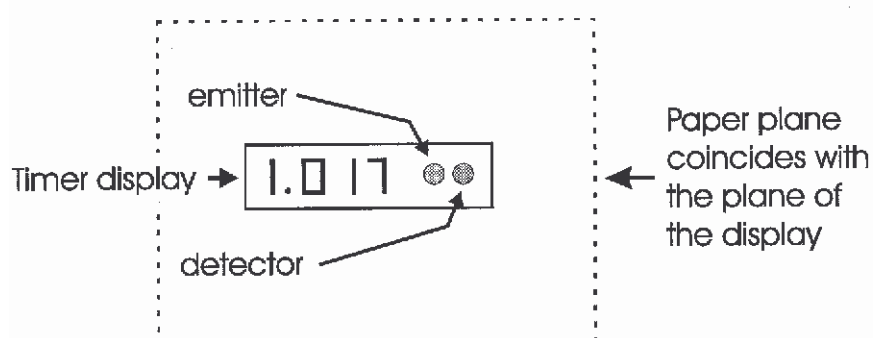

Figure 7. **For use in section 3b.** Indicate the whole area where the reflected light hits when the pendulum is vertical.
b) Consider the light source to be a point source, and the detector a simple photoelectric device. Make an illustration of how the light from the emitter is reflected by the mirror on the nut in the experimental setup (side view and top view). Figure 7 on page 10 shows a vertical plane through the timer display (front view). Indicate in this figure the whole region where the reflected light hits this plane when the pendulum is vertical.